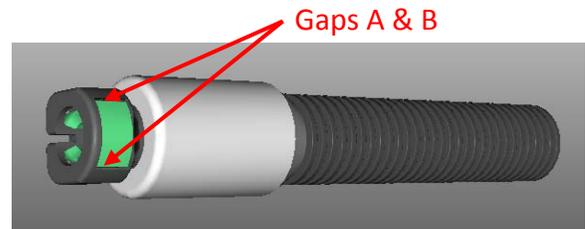

Fig. 3
6. If hose fitting fails to release, place a compressed air nozzle up against gaps "A" & "B", and blow out dirt and debris for a few seconds on each gap. (Fig. 3) Then repeat steps 4 and 5.